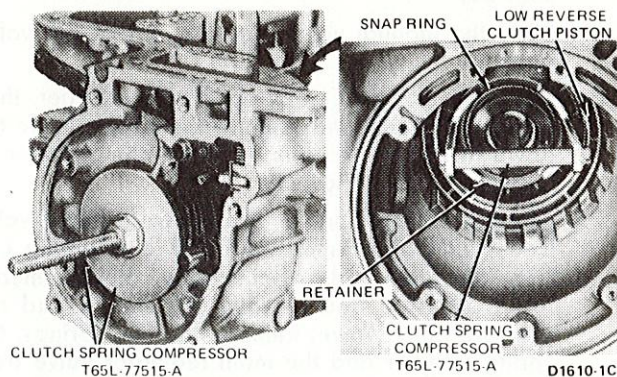

FIG. 18 Compressing Reverse Clutch Springs
21. Compress the reverse clutch piston release spring with Tool T65L-77515-A (Fig. 18). Remove the snap ring. Remove the tool and the springs and retainer assembly.
6. Install the compressing tool shown in Fig. 18 and compress the springs just enough to install the low-reverse clutch piston snap ring.